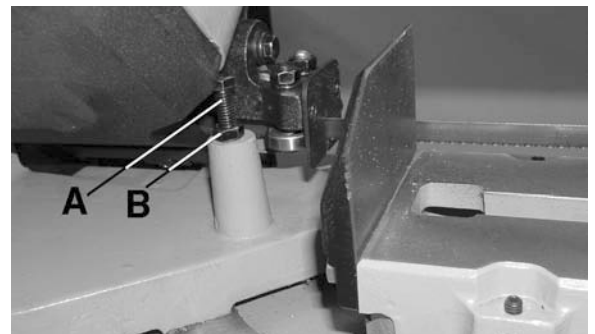

FIGURE 6
Now the head stop bolt (A) Fig.6 and hex. nut (B) must be adjusted. This feed stop bolt will determine how low the head will go (normally below the table surface). Adjust the bolt height so that the blade teeth are just below the table surface when the cut is complete. Make sure to retighten the hex. nut once the adjustment has been made.